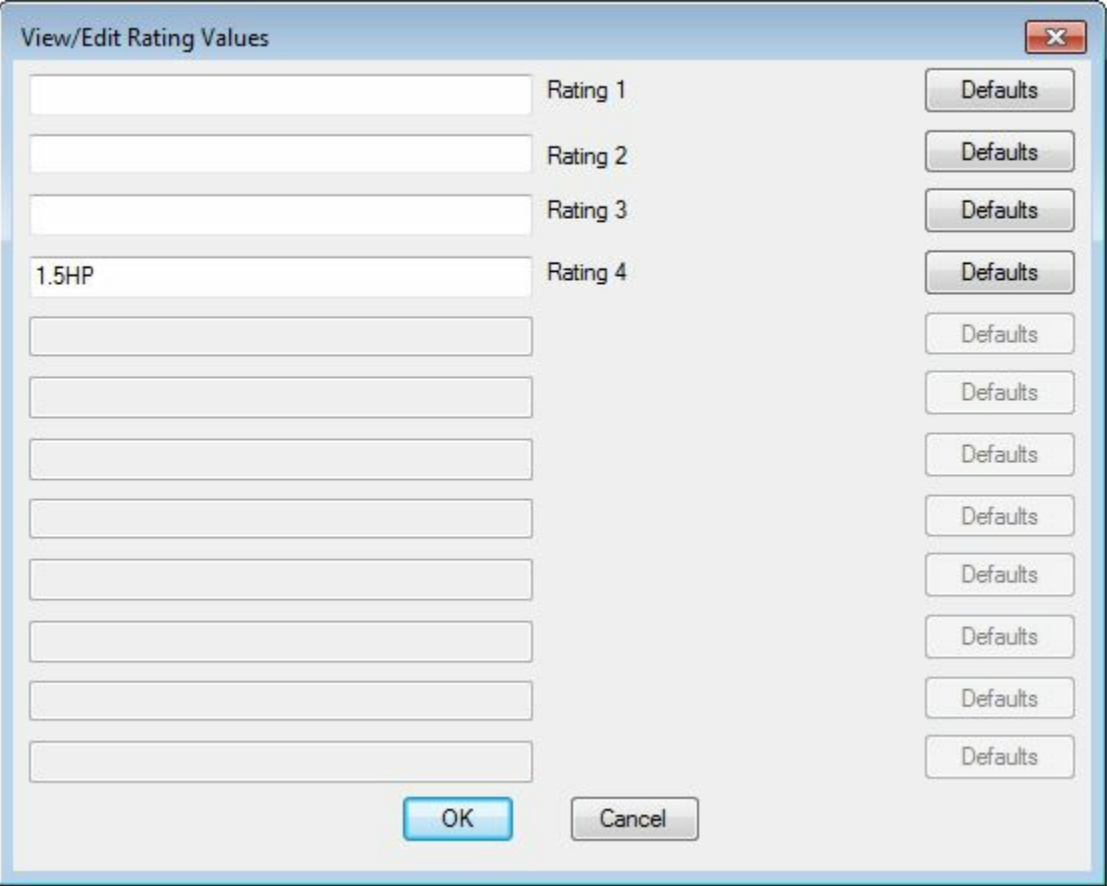

Figure-12. View or Edit Rating Values dialog box
- Click on the **Show All Ratings** button from the **Ratings** area of the dialog box. The **View/Edit Rating Values** dialog box will be displayed; refer to Figure-12.